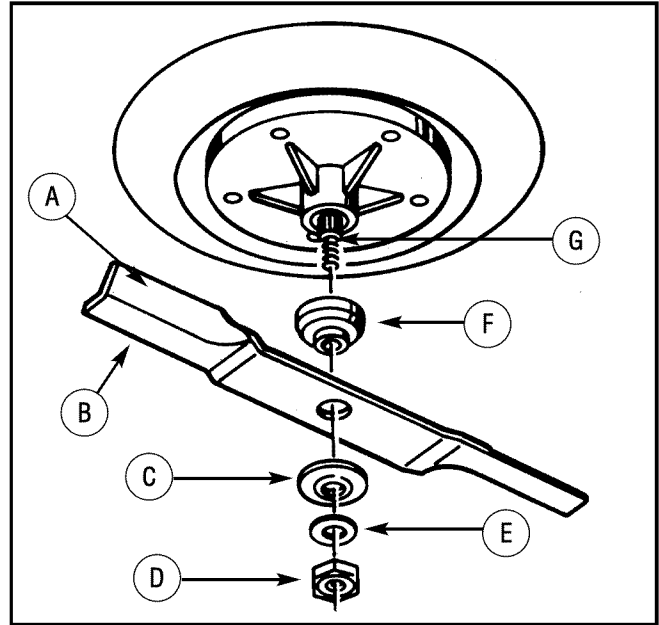

Figure 19: Removing the blades
3. Remove the nut that holds the blade (Figure 19).
6. Mount the **blade** and **blade adapter** on the mandrel (Figure 19).